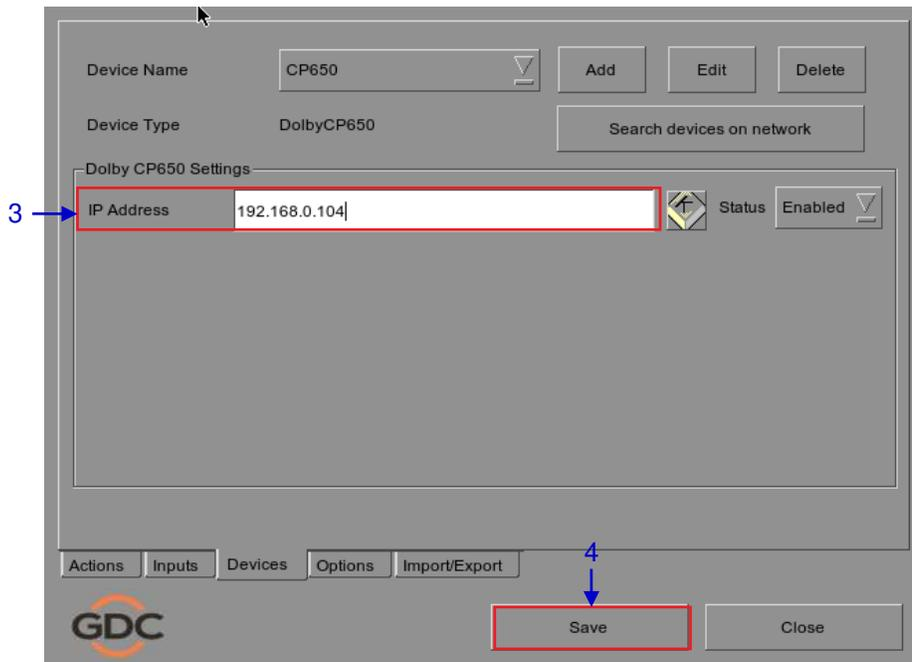

Figure 52 Automation settings for Dolby CP650 device.
3. Enter the IP address of the Dolby CP650 device (see Figure 52).